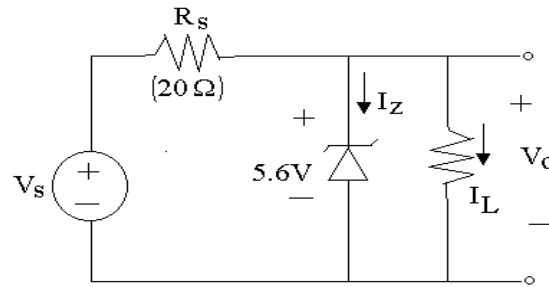

Fig.2
Q.51 In the circuit shown in Fig.2, if $v_i = 1 \text{V}$, calculate I_1 , v_o , I_L and I_o .